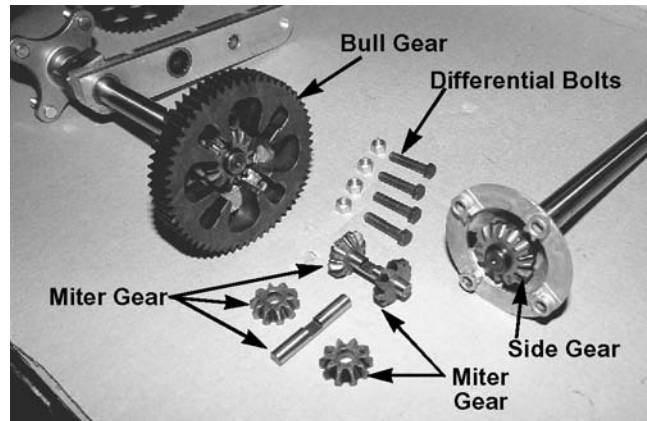

Figure 5-83.
39. Line up the right hand axle with the differential tabs and insert it into the bull gear assembly. Install the four bolts and lock nuts and torque to 120 inch pounds. See Figure 5-83.